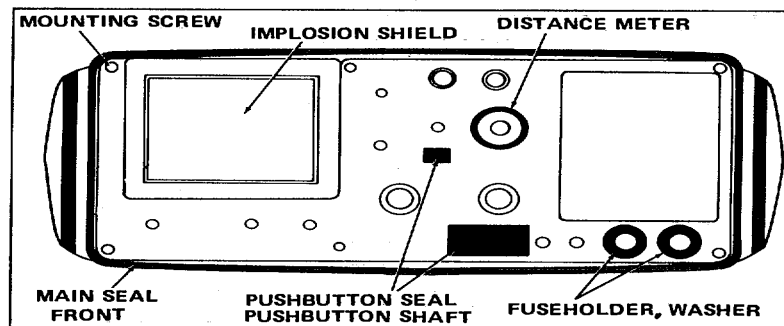

Figure 5-5. Subpanel, Identification of Parts.
1. Preparation of the Subpanel for further assembly (see Fig. 5-5)
6. Installation of rubber seals in two grooves located on the outer (see Figs. 5-5 and 5-6) edges of the front and rear sides of the Subpanel
7. Install the implosion shield and its retainer on the Subpanel (see Figs. 5-5 and 5-7)